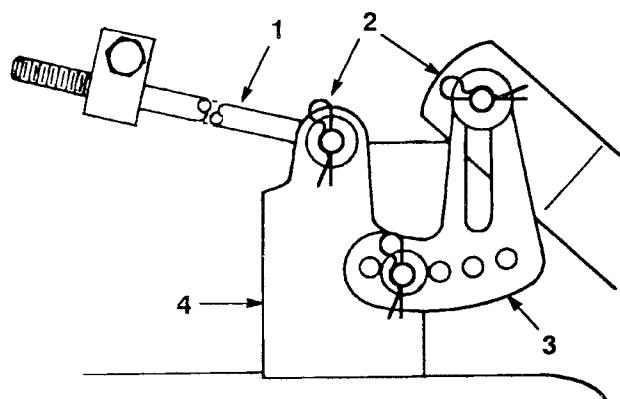

Figure 42
- Slide the end of the long rod through the hole in the mower mount (Fig. 42). Install the washer and hair pin cotter to secure the rod in place. Repeat this step on the opposite side of the mower.
- Mount the slotted mower leveling bracket onto the pin on the height-of-cut arm (Fig. 42). Install the washer and hair pin cotter to secure the mower. Repeat this step on the opposite side of the mower.